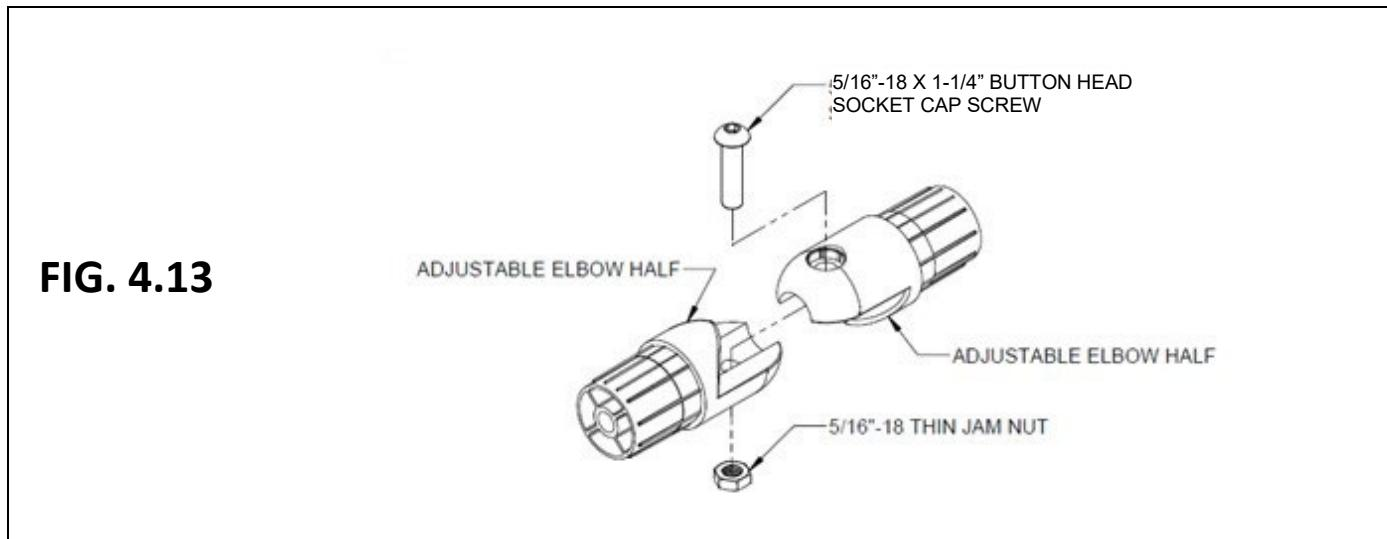

FIG. 4.13
- 4.6.7.1. Locate an adjustable elbow (elbow assembly and disassembly shown in FIG. 4.13).